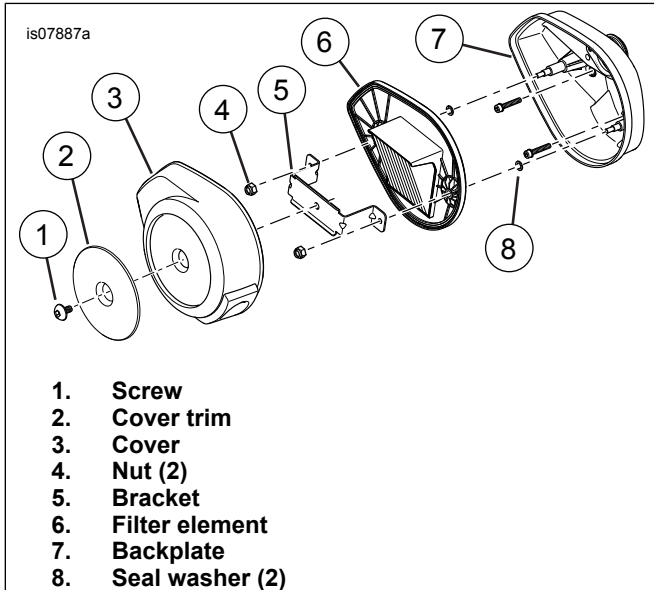

Figure 1. Original Air Cleaner
2. See Figure 1. See the service manual. Remove original equipment (OE) air cleaner components including backplate (7). Discard filter element (6).
3. Carefully remove and discard the original air cleaner cover insert from air cleaner cover (2). Remove any residual adhesive on the cover with mineral spirits.